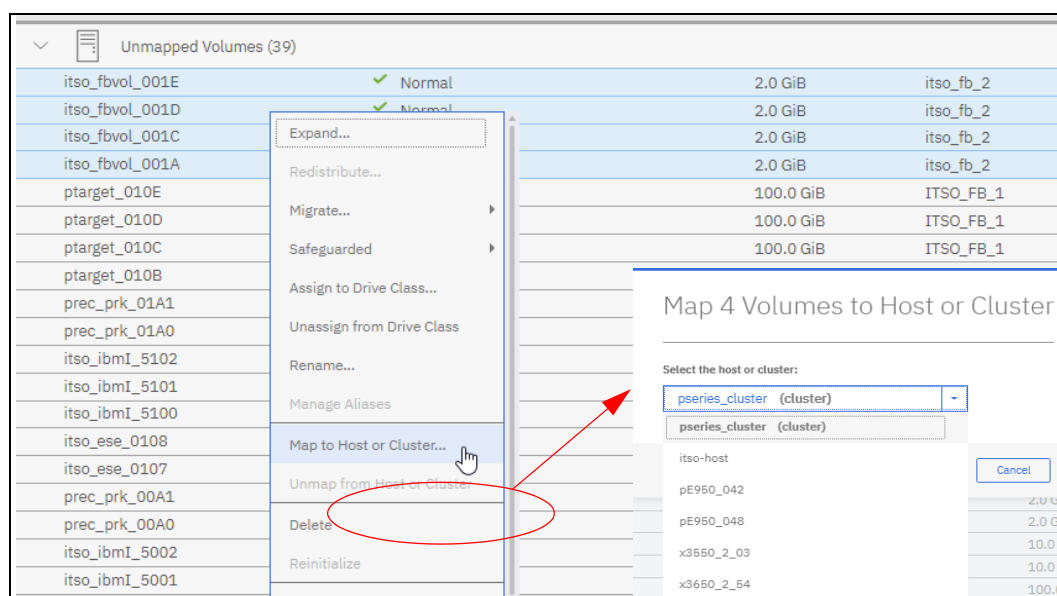

Figure 9-66 Mapping unmapped volumes to a host or cluster
2. The Volumes by Hosts menu opens. Select the volumes to map from the **Unmapped Volumes** list, as shown in Figure 9-66. From the Actions tab, or by right-clicking, select **Map to Host or Cluster**.
3. The Map Volume to Host or Cluster window opens. Select the host or cluster from the list of configured stand-alone hosts and clusters, as shown in Figure 9-66 on page 291, and then click **Map**.